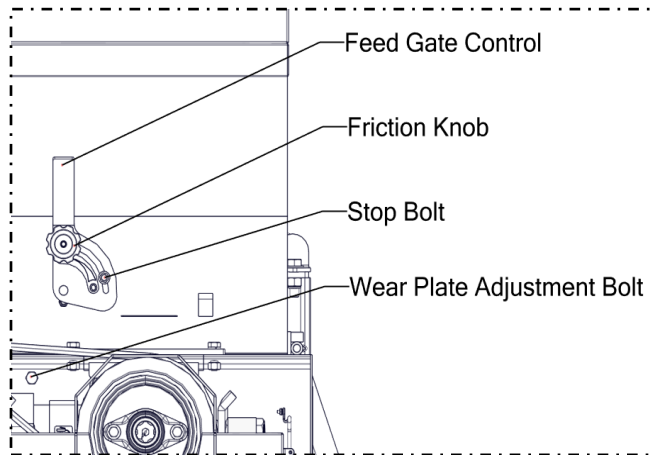
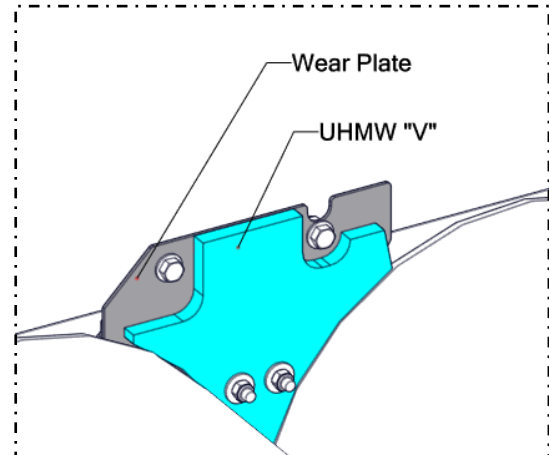

Figure 4.6
Figure 4.7
Set the friction knob (Figure 4.6) so that it supports the weight of the feed gate and yet allows the gate to be opened and closed by hand. Note that the setting of the feed gate helps to spread the feeding of grain evenly across the face of the roll. The feed gate also serves to limit the overall flow of grain through the rolls.
Wear plates (Figure 4.7) are used to keep grain from escaping around the ends of the rolls. The positioning of the wear plates can be seen when the feed gate is fully open. A noise can be heard if the wear plates are contacting the rolls. To remedy this, loosen the jam nut and wear plate adjustment bolt (Figure 4.6) until the noise stops. Alternately, if the gap is excessive, turn the bolt into the plate until the plate touches the roll, then back off until the noise stops. Tighten the jam nuts when the desired setting is obtained. Be sure to maintain the position of ‘UHMW “V”’ (Figure 4.7) to cover the chamfer at the ends of the rolls. Replace as necessary.
2. Ensure that the feed gate is closed (Figure 4.6) before starting the mill. Even a few grains will keep the rolls from turning. Start the rolls turning at minimum RPM and slowly increase the RPM speed to 540.
6. When finishing the rolling process, always clean the top hopper out completely and close the feed gate. Note that the feed gate stop bolt (Figure 4.6) can be used to set a consistent opening point. This maintains product consistency each time rolling is performed.